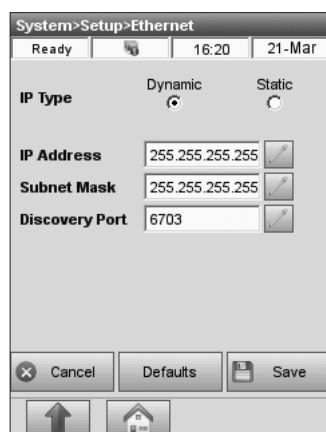

Fig. 3-86 Ethernet Settings
4. Go back to the **<System>Setup>Ethernet>** screen (Fig. 3-86) and make the following selections:
The status bar displays when network connection is enabled (Fig. 3-86) with the network icon .